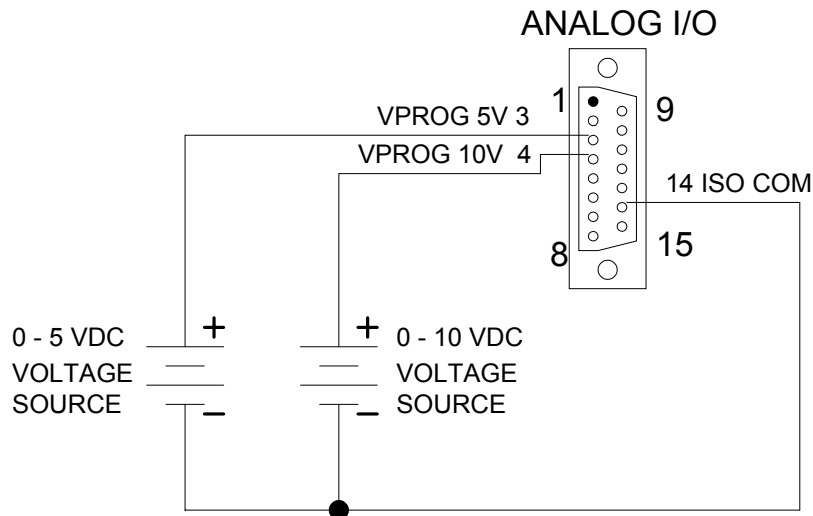

Figure 5-1: Remote Voltage Programming Using 0-5 or 0-10 VDC Source
1. External Voltage Programming Using a 5 VDC or 10 VDC Voltage Source. A DC voltage source for remote voltage programming is connected between pin 3 (V PROG 5V) or PIN 4 (V PROG 10V) and the return terminal PIN 14 (ISO COM). To program voltage slightly above the rated output will not damage the unit, but degraded performance may result. Figure 5-1 for connection requirements.